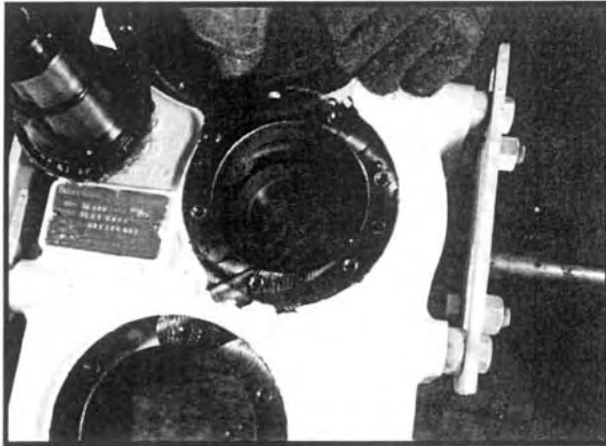

Fig 53
- Heat the intermediate shaft gear and lower it into the transfer case housing through the upper shaft bore. Position the gear against the rear of the housing in line with the intermediate shaft bores. See Figure 53. Quickly lower the intermediate shaft assembly through the gear. Be sure that the gear is firmly seated against the shaft shoulder.